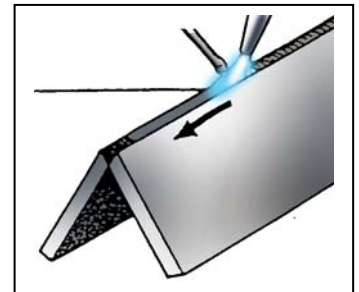

Figure 5
24. Carry the bead forward by moving the torch and adding filler with a smooth, uniform motion. Refer to Figure 5.